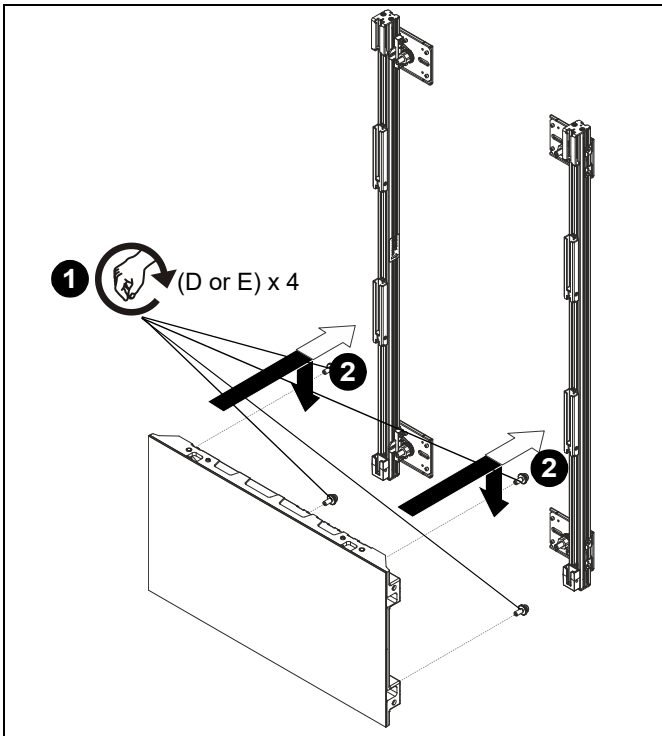
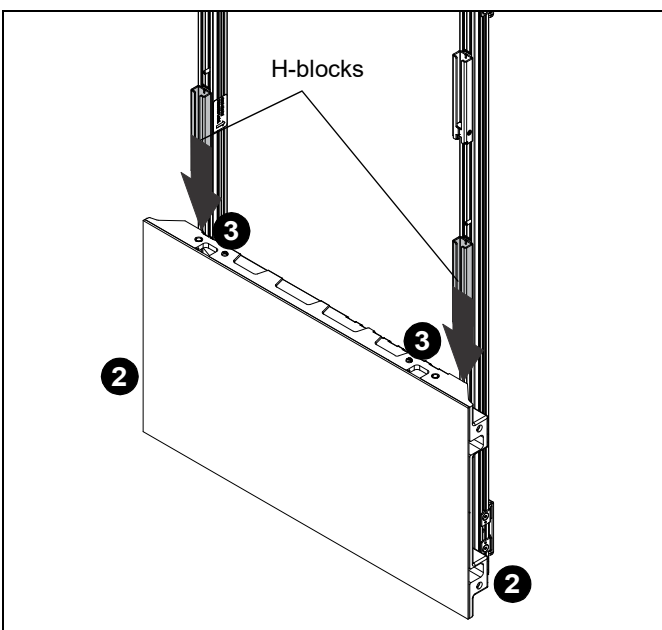

Figure 16
Figure 17
1. Install mounting buttons (D or E) into displays to be installed. (See Figure 16)
2. Install display to mount by inserting lower mounting buttons into the base carriages. (See Figure 16) and (See Figure 17)
3. Slide the H-blocks down the extrusion to enclose the upper mounting buttons. (See Figure 17)